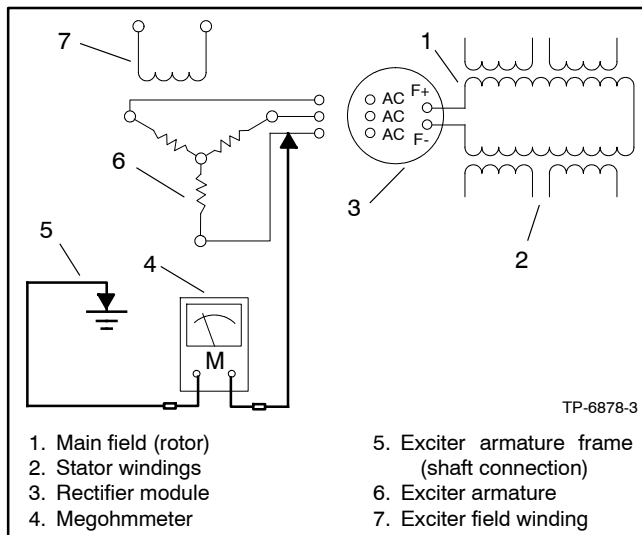

Figure 10-6 Megohmmeter Connections on Exciter Armature
4. Check the exciter armature winding for a short-to-ground condition. Use a megohmmeter to apply 500 volts DC to either armature lead and the exciter armature frame. Follow the megohmmeter manufacturer's instructions for using the megohmmeter. See Figure 10-6.